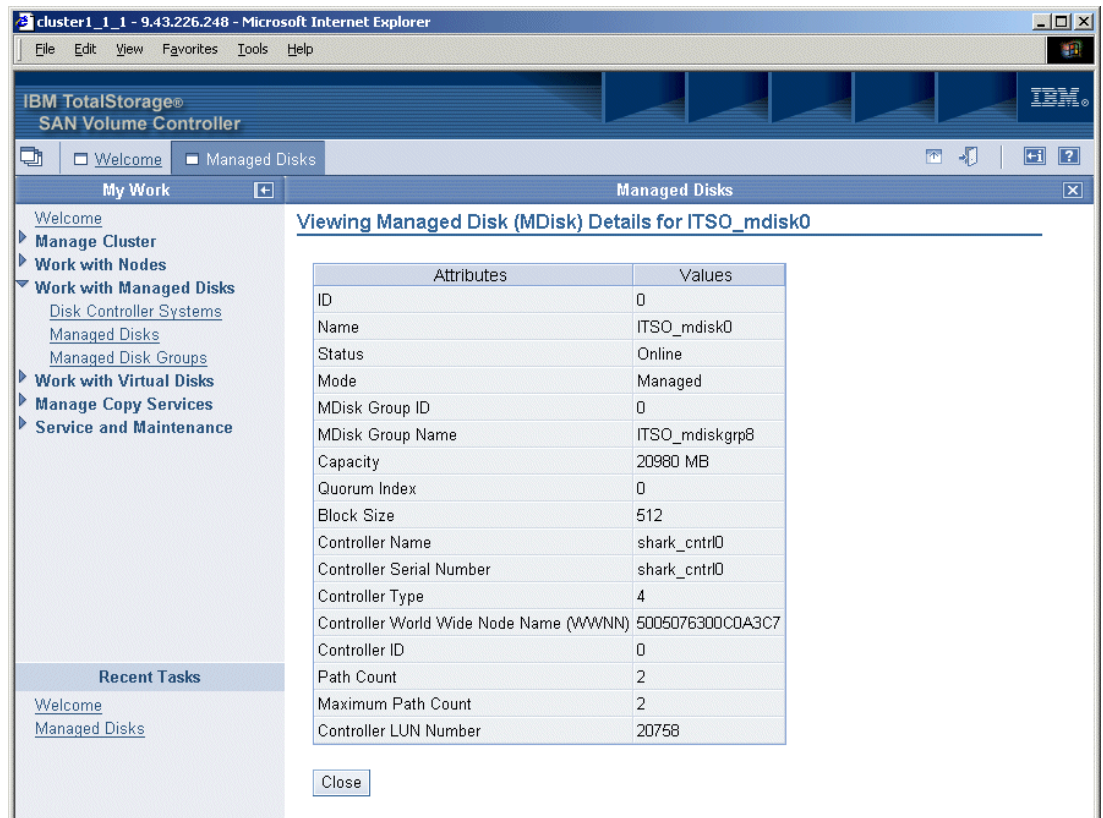

Figure 9-30 Managed disk details
1. On the Viewing Managed Disks panel (Figure 9-30), click the name of any mDisk in the list to reveal more detailed information about the specified mDisk.